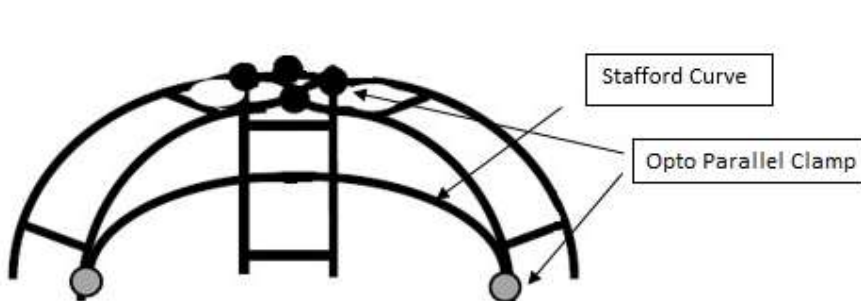

Figure 4: Positioning of the Stafford Curves
11. Attach, using Opto Joints, the Stafford Curves in the gaps between the Top Curves. Leave 1" of the Stafford curve protruding from the clamp. The clamp should be positioned 1" from the bottom of the Round Curves, as illustrated in Figure 4.